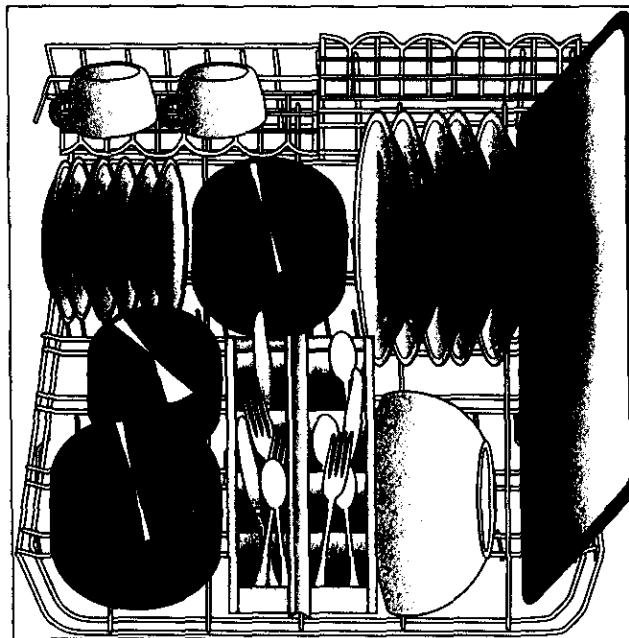

Figure 5.
- The Bosch dishwashers also have a pair of flip down shelves at the back of the lower rack. These shelves may be flipped down to hold extra large utensils, such as serving spoons, or long knives. They also may be used as additional cup shelves. See Figures 5 and 7.